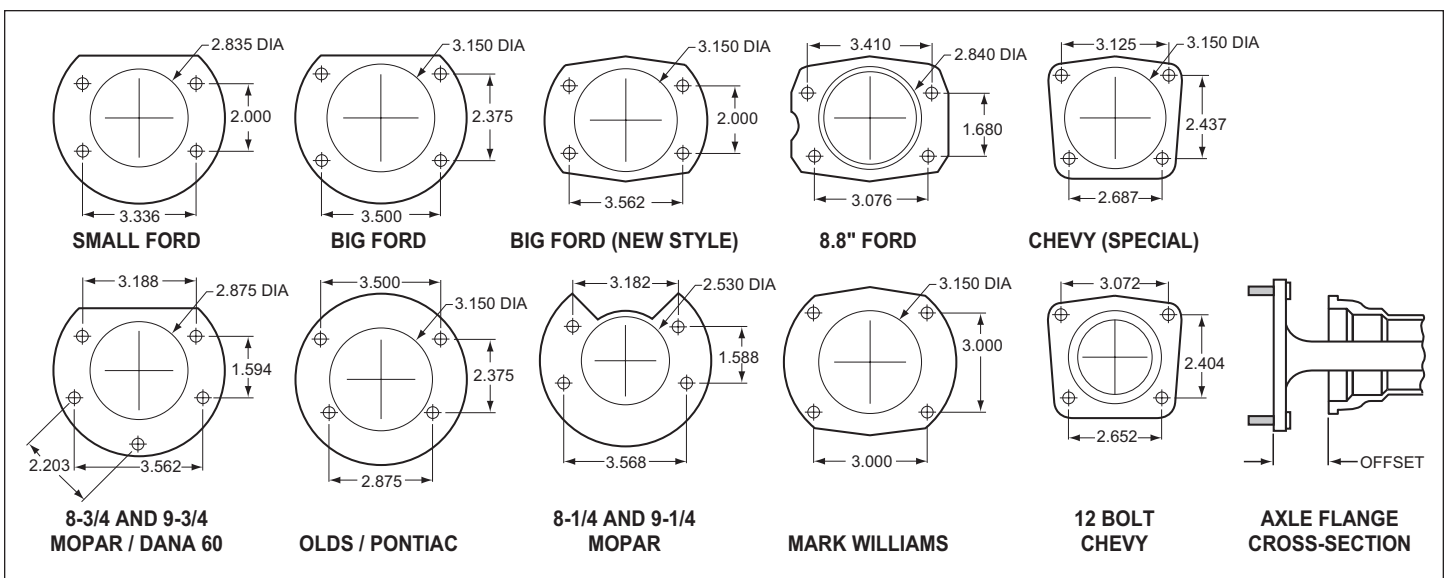

Figure 3. Rear Housing Flange Chart and Axle Flange / Offset Cross-Section
- Make sure this is the correct kit to fit the axle housing flange, not necessarily the rear end make. Many times after market manufacturers put a different make of axle housing flange on the stock rear end housing (see Figure 3, next page). Example; Big Ford rear ends with Olds-Pontiac flanges, therefore, an Olds-Pontiac rear disc brake kit would be the correct kit to order.
- Dimension from wheel side of axle flange to wheel side of axle housing flange (see Figure 3, lower right hand corner). This dimension is critical to ensure proper alignment of the rotor to the caliper, and should match offset given in the kit description.